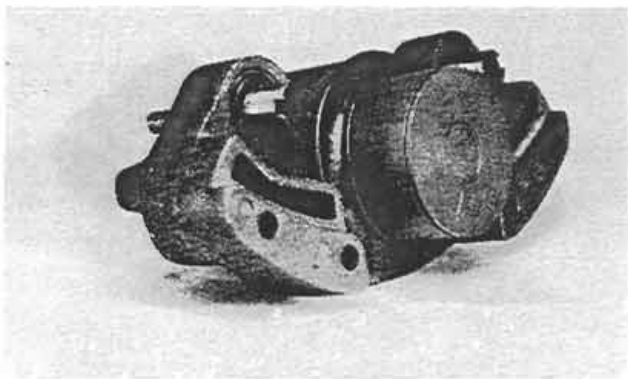

Figure 17:
4. Lubricate the piston and its seals with brake fluid and start it in the bore of the piston side casting while repositioning the dust boot over the piston (Fig. 17). (DO NOT USE OIL OR GREASE!)